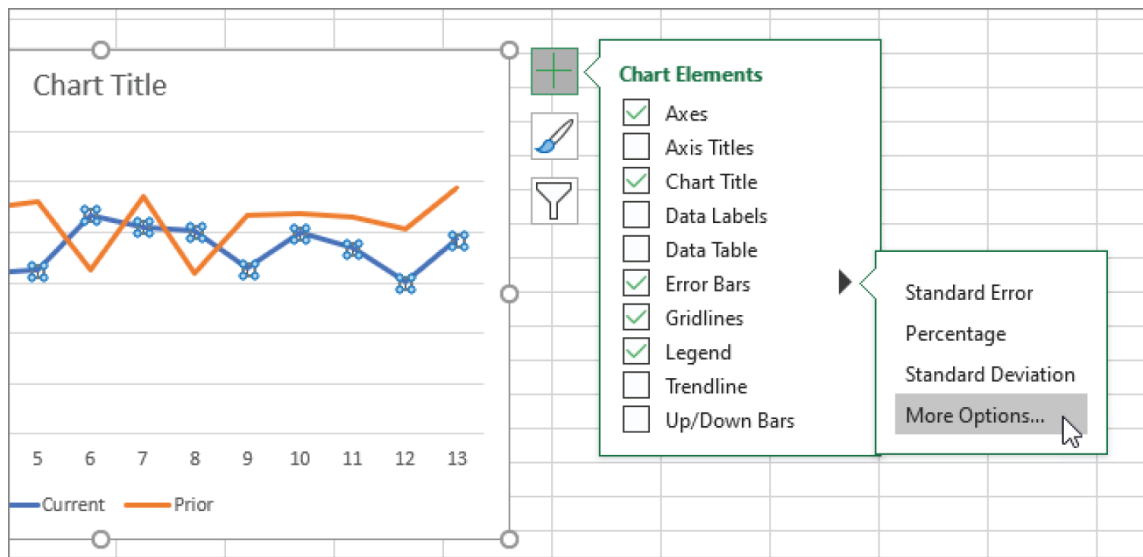

Figure 9.36: The on-chart Chart Elements tool
1. Select the Current series and add error bars using the on-chart Chart Elements tool. On the Error Bars submenu, choose More Options to show the Format Error Bars task pane. Figure 9.36 shows the on-chart Chart Elements tool.